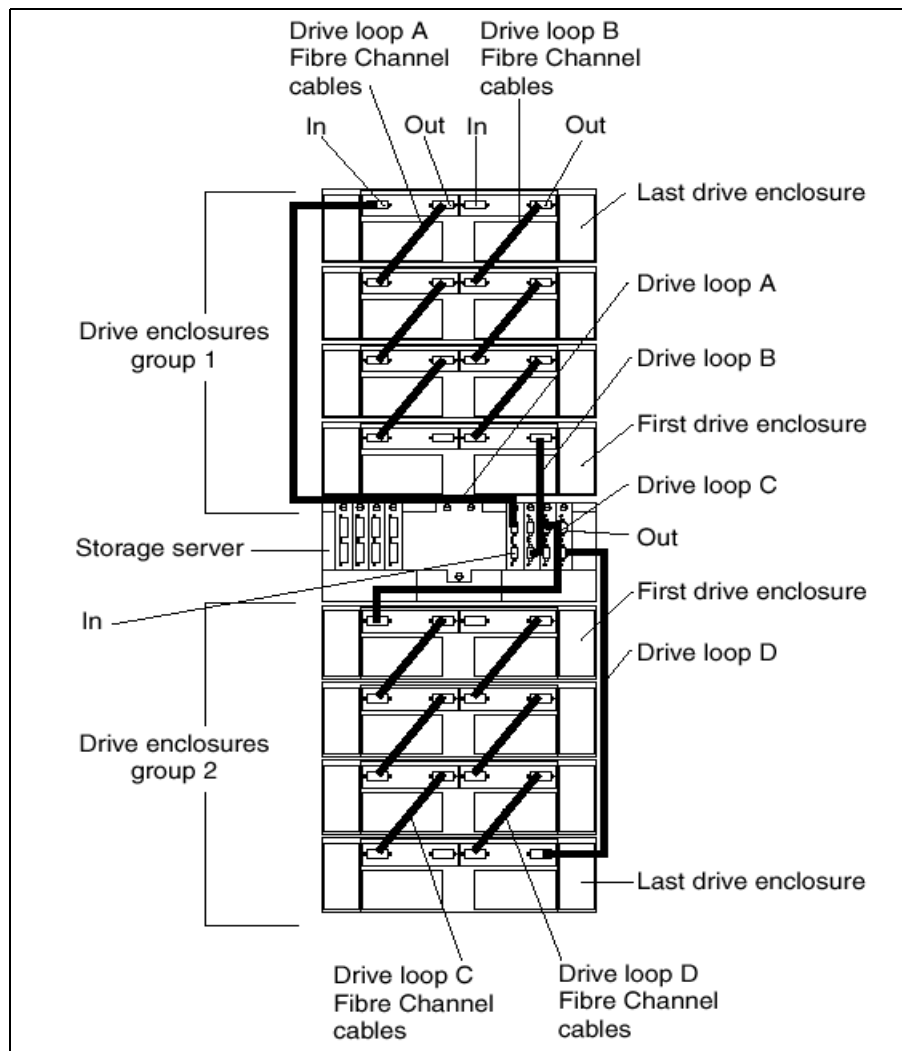

Figure 2-12 FAST900 drive-side Fibre Channel cabling
For the FAST900 drive-side Fibre Channel cabling, as shown in Figure 2-12 on page 27:
4. If you are cabling a second group, repeat step 1 to step 3 and reverse the cabling order; connect from the Out ports on the ESM boards to the In ports on successive expansion units according to the illustration on the left. See Figure 2-12.
Tip: Figure 2-12 on page 27 shows that there are four drive loops (A, B, C, and D). The best practice is to distribute the storage (the EXP units) configuration among all of the four available drive mini hubs for redundancy and better performance.